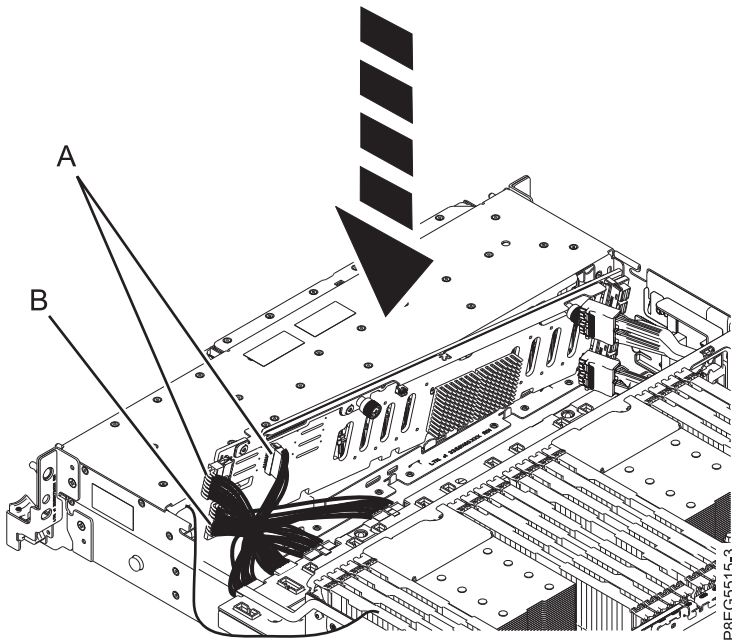

Figure 18. Reconnecting the power, signal, and control panel cables
3. Reconnect the power Y cable (**B**), and the signal and control panel cables (**A**), to the disk drive backplane as shown in Figure 18 on page 20.